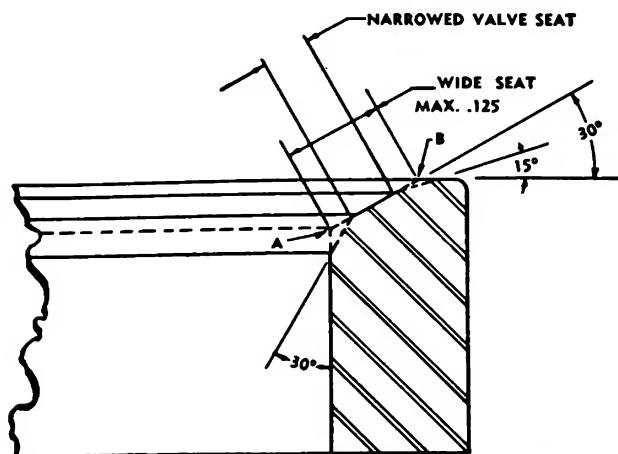

Fig. 3-17. Cross section valve seat insert
VALVE SEATS: 1. If inspection has shown that valve seat inserts are loose, or if valve seats are wider than .125 and can not be narrowed sufficiently as shown in Fig. 3-17, new valve seat inserts should be installed. Remove old valve
5. If ground seat is wider than maximum $\frac{1}{8}$ inch, stock can be removed from points "A" and "B" with specially dressed stones in a valve seat grinder. Narrowing should not extend beyond the chamfer that is provided for peening. See Fig. 3-17.